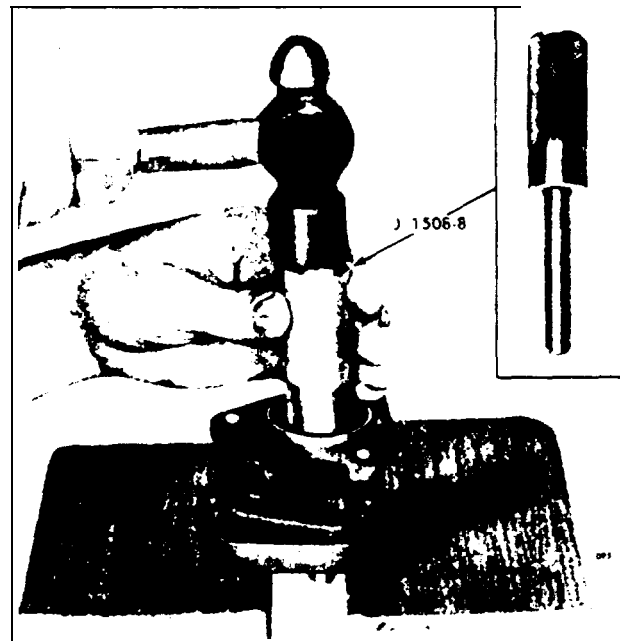

Fig. 6 - Installing Inner Oil Seal
- b. With the pump body supported on wood blocks, insert the oil seal and tool in the pump body and drive the seal in until it bottoms in the counterbore (Fig. 6)